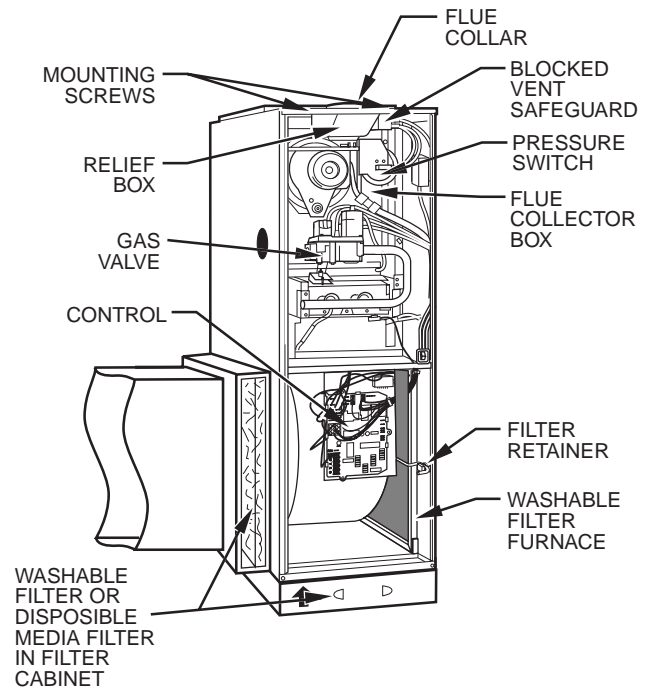

Fig. 6—Model 330AAV Upflow
2. Upflow—filters installed in media cabinet adjacent to furnace (See Fig. 6)
3. Upflow—filter(s) installed in side(s) and/or bottom of blower compartment (See Fig. 6)
- b. Release filter retainer from clip at front of furnace casing. (See Fig. 6.) For side return, clips may be used on either or both sides of the furnace.
5. Remove 2 screws that secure relief box. (See Fig. 6 or 7.)